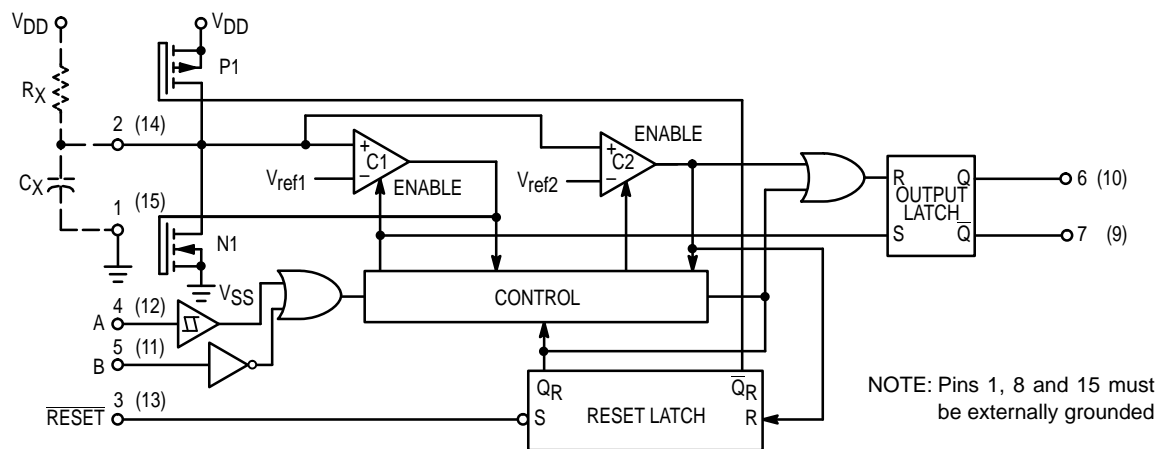

Figure 1. Logic Diagram
The block diagram of the MC14538B is shown in Figure 1, with circuit operation following.
As shown in Figure 1 and 10, before an input trigger occurs, the monostable is in the quiescent state with the Q output low, and the timing capacitor  $C_X$  completely charged to  $V_{DD}$ . When the trigger input A goes from  $V_{SS}$  to  $V_{DD}$  (while inputs B and Reset are held to  $V_{DD}$ ) a valid trigger is recognized, which turns on comparator C1 and N-channel transistor N1 ①. At the same time the output latch is set. With transistor N1 on, the capacitor  $C_X$  rapidly discharges toward  $V_{SS}$  until  $V_{ref1}$  is reached. At this point the output of comparator C1 changes state and transistor N1 turns off. Comparator C1 then turns off while at the same time